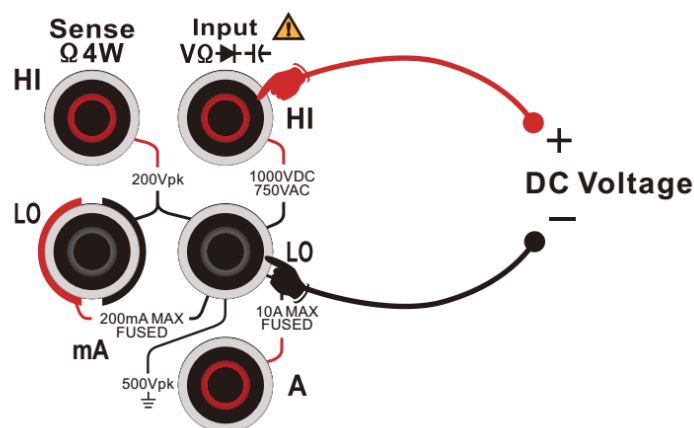

Figure 2-10 Measuring Connection of DC Voltage
2. As shown in Figure 2-10, connect the test leads to the voltage to be measured, the red test lead to the "HI" terminal of the input jack and the black test lead to the "LO" terminal of the input jack.